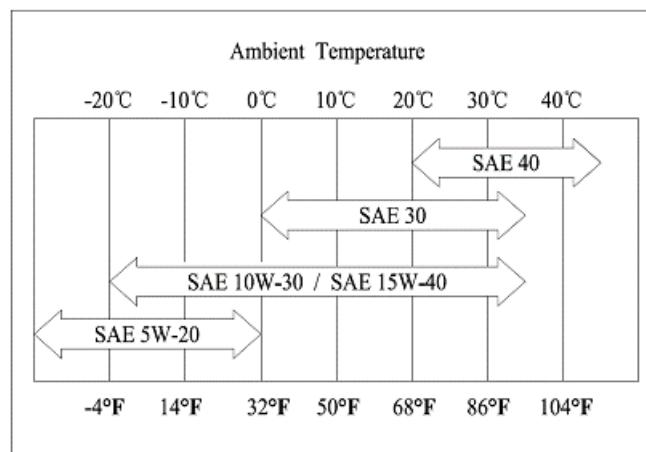

Figure 3-2: Recommended Oil Viscosity
6. See Figure 3-2. Fill the engine with 1.0 L (33.8 oz.) of recommended oil.